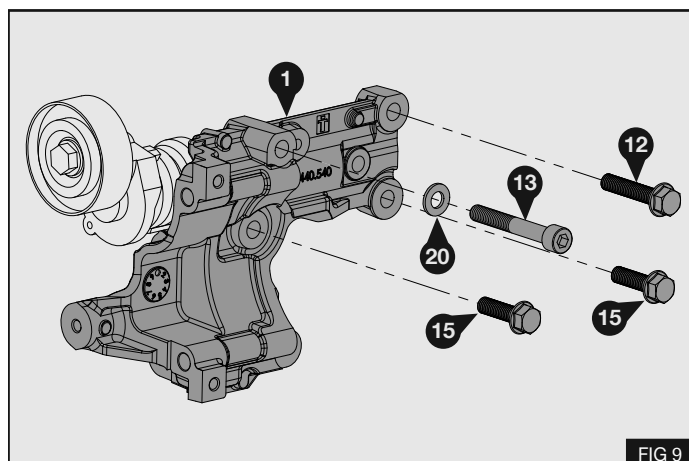

FIG 9
- Fit the mount bracket (1) to the position below the alternator. Locate the bracket to the dowel holes on the block. Secure using bolts (12), (15) and bolt (13) with washer (20) – Fig 9
Torque bolts (12), (13) and (15) to 58Nm / 42.8lb ft – Fig 9